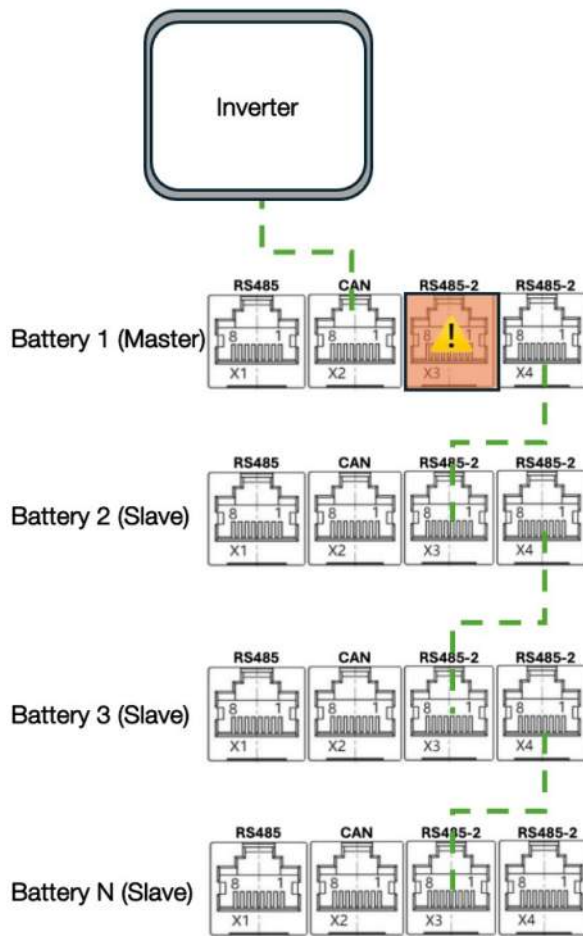

Figure 30: Communications Connection Diagram
- Refer to Figure 30: Communications Connection Diagram on the following page.